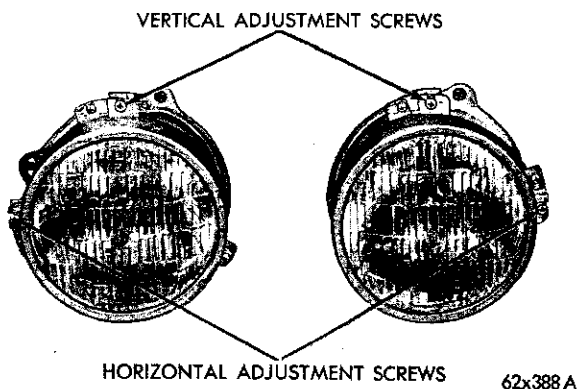

Fig. 109—Headlamp Adjustment Points (Typical)
(Fig. 109)****Horizontal Adjustment**
(2) While sighting through the viewing port of the aimer, turn the horizontal adjusting screw (Fig. 109) on the headlamp until the split image target line merges into one unbroken line. To remove the backlash, be sure to make a final adjustment by turning the headlamp horizontal adjusting screw in a clockwise direction.
(3) Make the horizontal adjustment on the other outboard headlamp in the same manner.
(4) Remove the aimers, from the outboard headlamps, by releasing the spring lock at the rear (bottom) of the aimer and pushing the release lever forward. Do not attempt to remove the aimers by pulling them away from the headlamp lens — slide the suction cup downward and away from the lens.